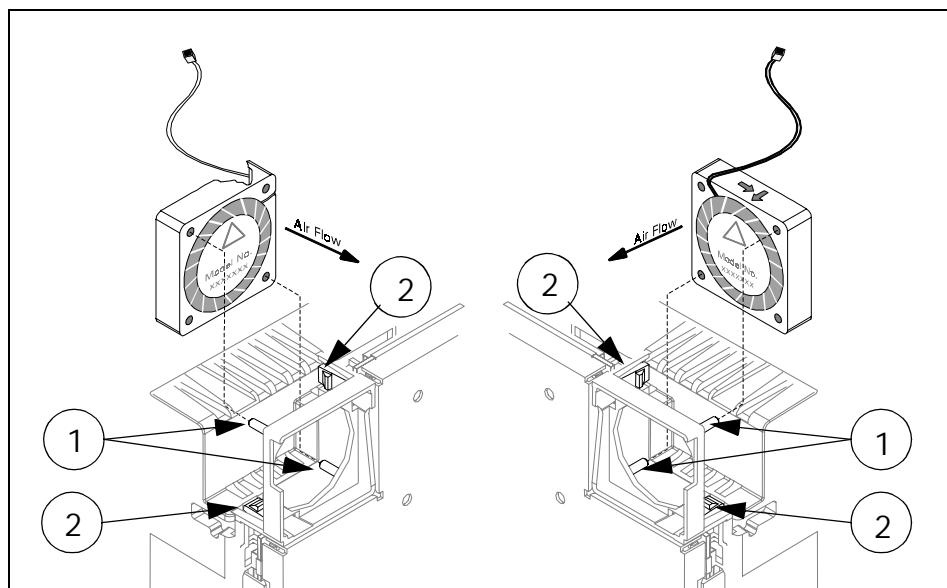

Fig. 3-17 Fan Replacement
Fans are located in the upper left and right hand corners of the integrated subassembly. See Fig. 3-17. Each fan slides onto two plastic posts ① on diagonally opposite corners of the plastic mount, and secured in position by two plastic locking tabs ②. To replace a fan, three connector covers (Fig. 3-14) on the back of the rear housing must be removed to allow the integrated subassembly to be separated from the rear housing and the RFI shield removed from the Processor Board, but it is not necessary to completely remove the integrated subassembly from the housing or to further disassemble the subassembly.
- 5) Depress the tabs securing the fan to the plastic housing, as you slide the fan off of the mounting posts and remove it. Refer to Fig. 3-17.
- 1) Slide fan onto the positioning posts, label side in as illustrated in Fig. 3-17, and route the fan cable as shown.